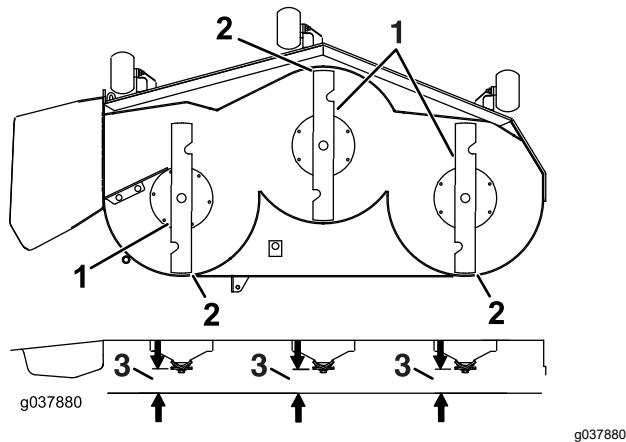

Figure 89
7. Check the front-to-rear blade level (Figure 89). Ensure the front blade tip is lower than the rear blade tip as shown in the block height and rake table. If adjustment is needed, continue with this procedure.